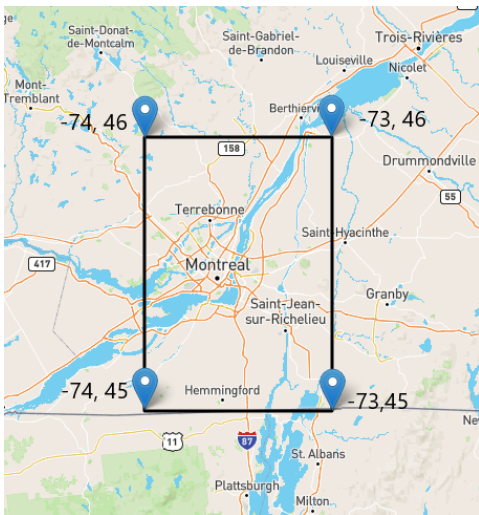

Figure 1. Search area
- b) Certainly, there are other people in your region who have experienced the same thing you have! Using the COUNTIFS function in excel and the data in columns A and B in the 'Question 2ab' tab, determine how many surveillance aircraft have been spotted around the Greater Montreal Area between the longitude -73 to -74 and the latitude 45 to 46 as shown in *Figure 1*. Put your answer in Cell N17. **[4 marks]**